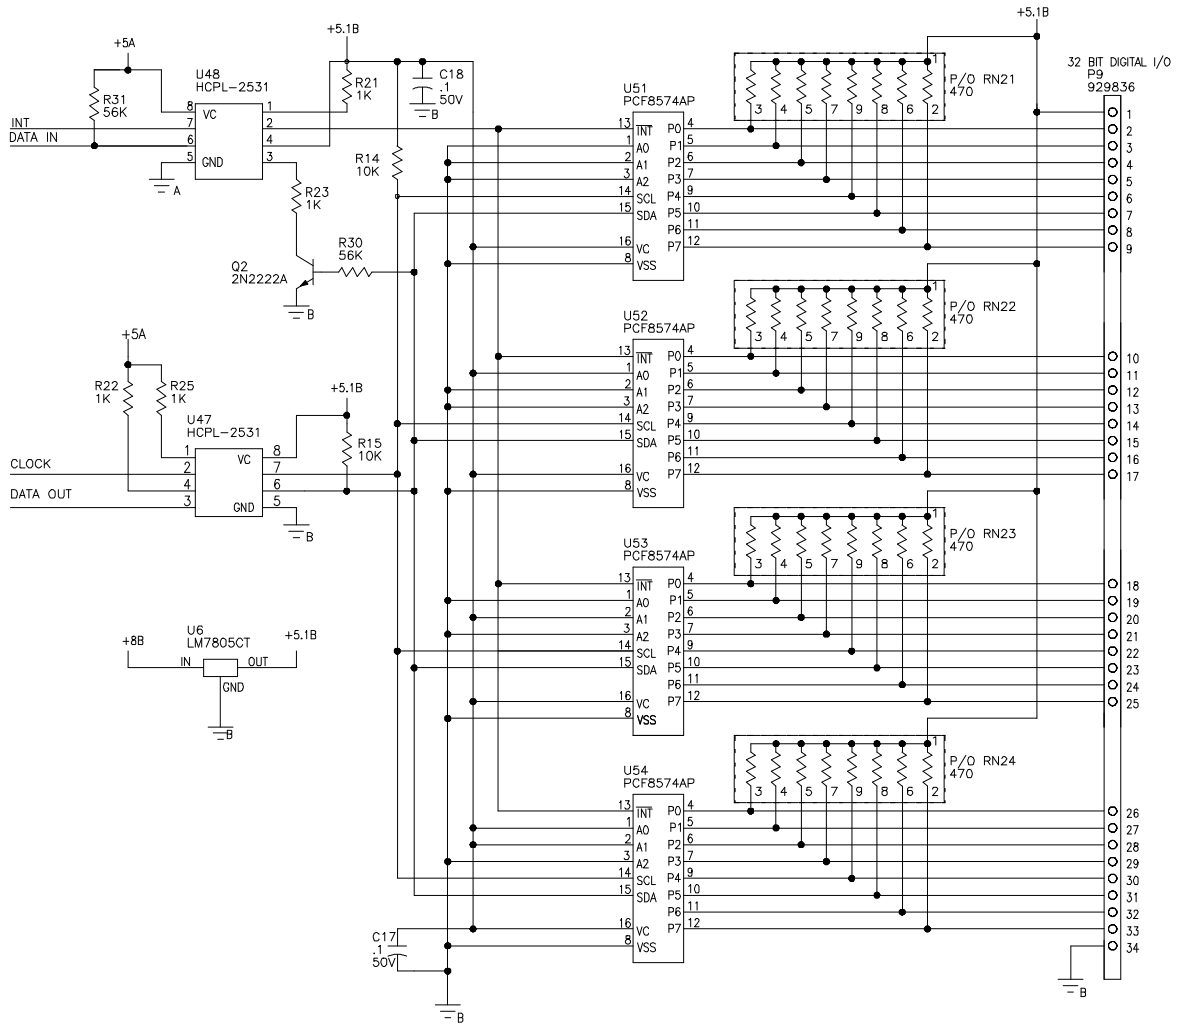

Figure 9, Digital I/O
The digital I/O port IC's, U51-U53, are remote 8 bit I/O expanders for the I²C bus. Their I²C interface is a two wire serial interface. (See Figure 9, Digital I/O)
- k. Individually ground (P9 pin 34) each pin corresponding to each optional digital I/O port (See Figure 9) and verify the readback on the SBCwin screen.
- l. Set and reset each bit of each installed digital I/O port while observing the appropriate pin using a multimeter (see figure 9).